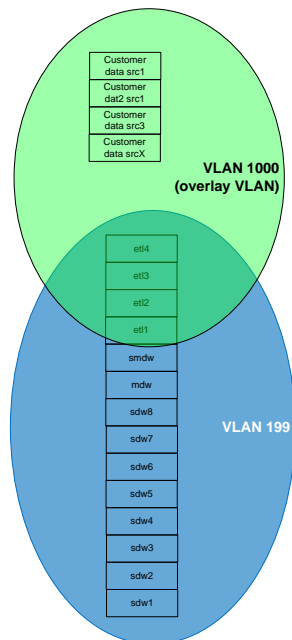

Figure 5. Configuring the VLAN Overlay
Each server that is both in the base VLAN and the overlay VLAN has a virtual interface created that tags packets sent from the interface with the overlay VLAN. For example, suppose eth2 is the physical interface on an ETL server that is connected to the first interconnect network. To include this server in an overlay VLAN (VLAN 1000 as shown in **Figure 5**), the interface eth2.1000 is created using the same physical port but defining a second interface for the port. The physical port does not tag its packets but any packet sent using the virtual port is tagged with a VLAN (VLAN 1000 as shown in **Figure 5**).
The switch in the cluster that connects to the servers and the customer network is configured with the overlay VLAN. All of the ports connected to servers that will participate in the overlay are changed to switchport mode converged and added to both the internal VLAN (199) and the overlay VLAN (1000) as shown in **Figure 5**.